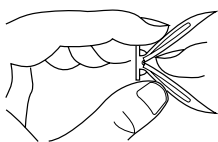

Figure 12 - Folding Anchor
2. Fold wall anchor as shown in Figure 12.